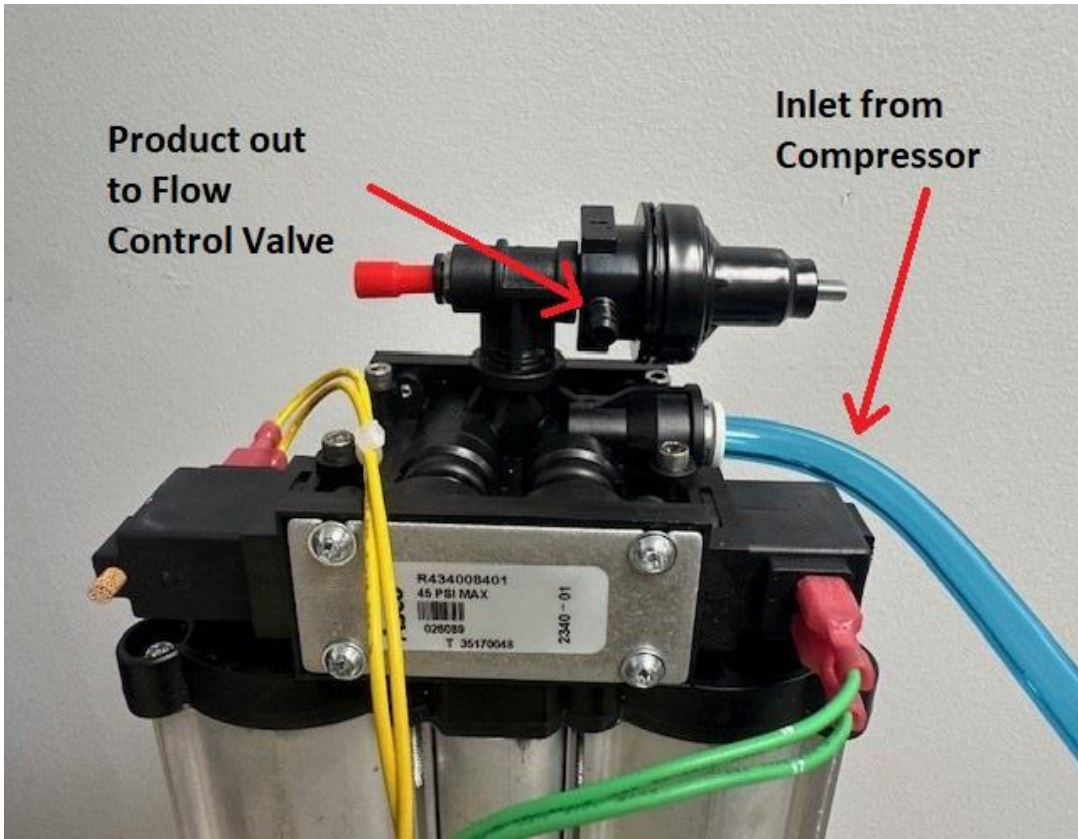

Figure 5.1.1 Normal Operating Configuration
- b. Remove the air supply tubing going to the control valve and install the test port tee fitting. (See Figures 5.1.1 and 5.1.2 below for Normal Operating Configuration and Test Port Configuration.)
- c. Remove the tube from the control valve and install the test port tee. (see Figures 5.1.1 and 5.1.2 below for Normal Operating Configuration and Test Port Configuration.)